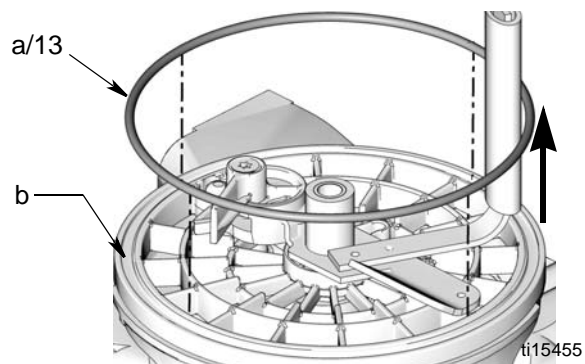

FIG. 3
If o-ring is damaged remove and discard according to local codes for proper disposal and install new o-ring (13) included in kit in groove in rincer plate (b) (FIG. 3).